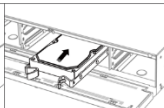

Figure 2-6 Insert
- Step 3 Insert the HDD until it is fixed firmly, Fig 2-6.